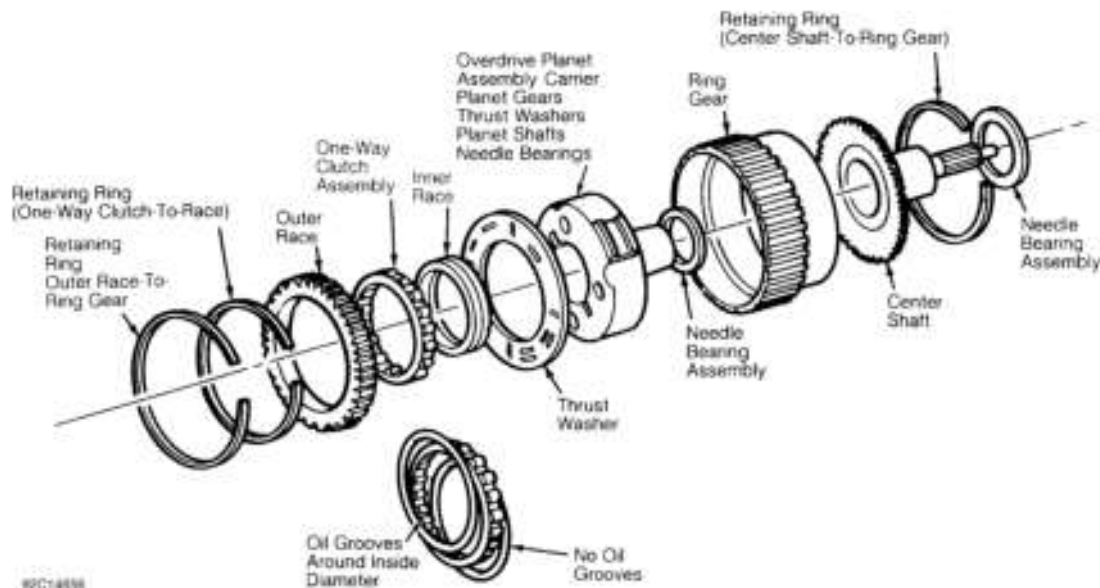

Fig. 14: Exploded View Of Overdrive Ring Gear & Center Shaft
1. Remove outer race-to-ring gear retaining ring. Remove one way clutch assembly with inner and outer races. Remove one way clutch assembly with inner race from outer race. See **Fig. 14**.